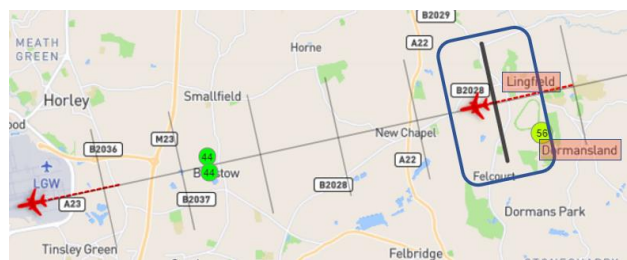

Fig 1. Noise abatement – Lingfield and Dormansland.
- 36 Aircraft with a wingspan of <29m and a length <30m may be marshalled on stand to park facing 'nose outwards' in relation to the stand. When required to do so, a GAL marshaller will guide the aircraft from the taxiway centreline onto the stand area. **Note:** this may initially be offset in relation to the parking stand centreline, or by using space on an adjacent stand. The marshaller will then turn the aircraft using the available space so the aircraft is brought to a stop to park facing the desired direction as shown in Fig1.